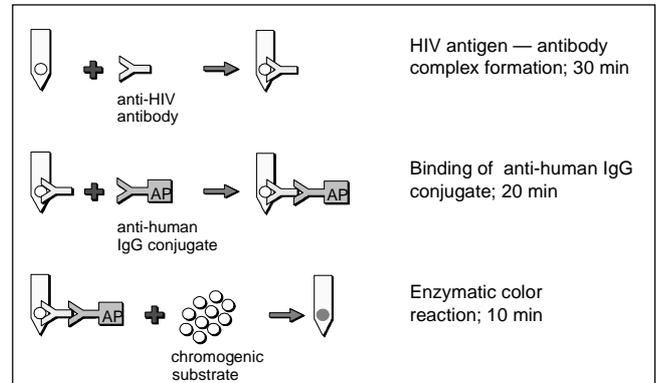

Figure 1. Principle of the Test
To start the test, serum or plasma specimens are added to the diluent in the wells of row A of the Developing Plate. The Comb is then inserted in the wells of row A. Anti-HIV antibodies, if present in the specimens, will specifically bind to the HIV antigens on the teeth of the Comb (Figure 1). Unbound components are washed away in row B. In row C, the anti-HIV IgG captured on the teeth, and the human immunoglobulin on the upper spots (Internal Control), will react with anti-human IgG antibodies labeled with alkaline phosphatase (AP). In the next two rows, unbound components are removed by washing. In row F, the bound alkaline phosphatase will react with chromogenic components. The results are visible as gray-blue spots on the surface of the teeth of the Comb.